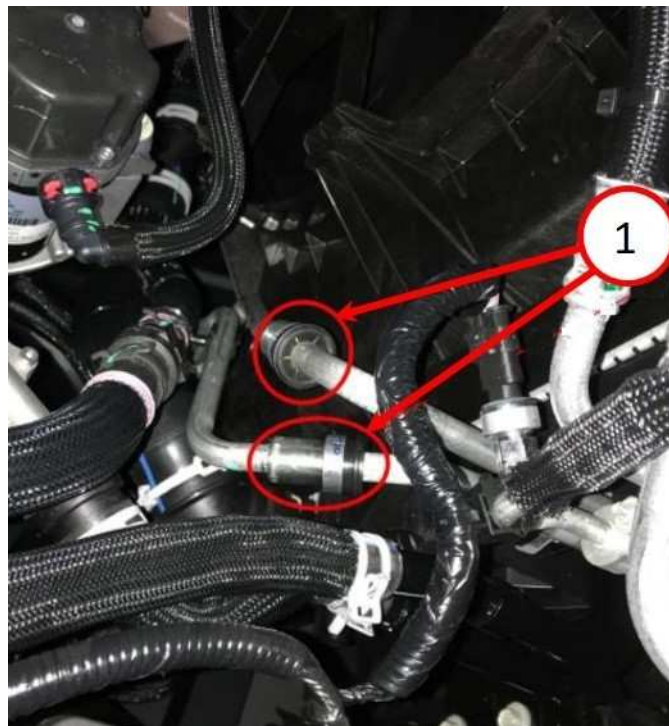

Fig. 1
1. Inspect the TOC lines by pulling on lines to see if they come loose and separate the connection. The black assurance caps (Fig. 1) need to be pulled back to inspect.